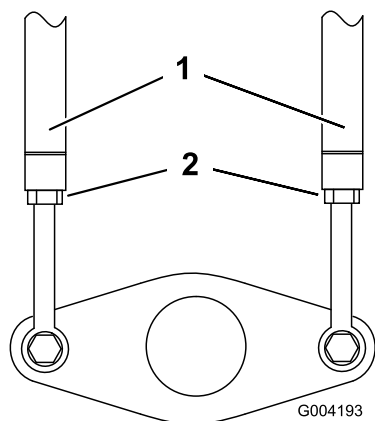

Figure 49
3. Loosen the jam nuts on the traction rods, under the control panel (Figure 49).